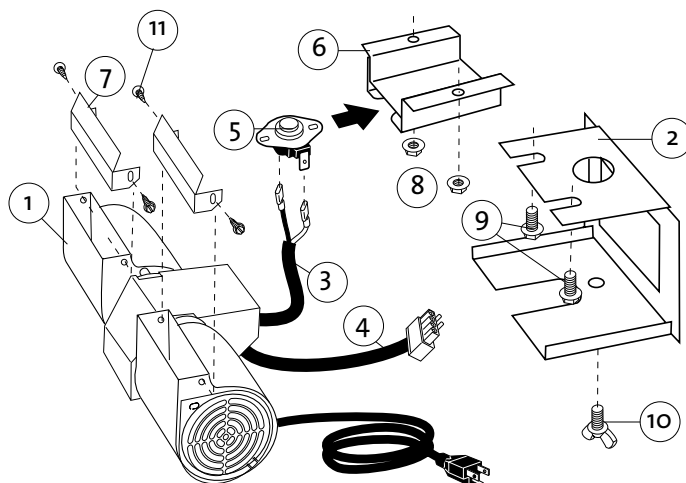

Figure 41. Blower Kit Components
1. Unpack and check the contents of the blower kit. Contact your dealer if damage is evident or parts are missing. See fig. 41.